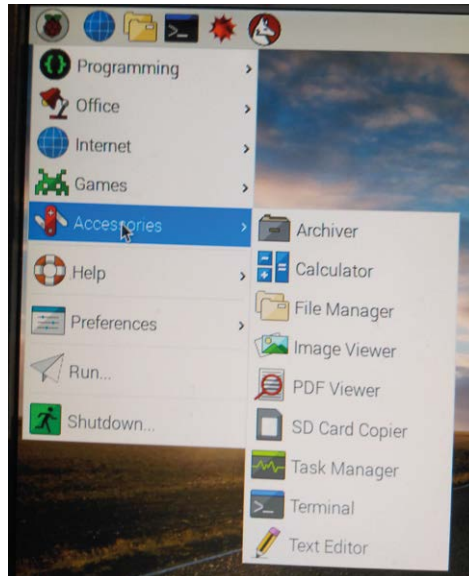

Figure 2.6 Access the Terminal menu
- For security reasons, the SSH protocol is disabled by default on a new operating system. To enable it, click on the **Applications** menu at the top left of the screen, click **Accessories**, and then click **Terminal** (see Figure 2.6)